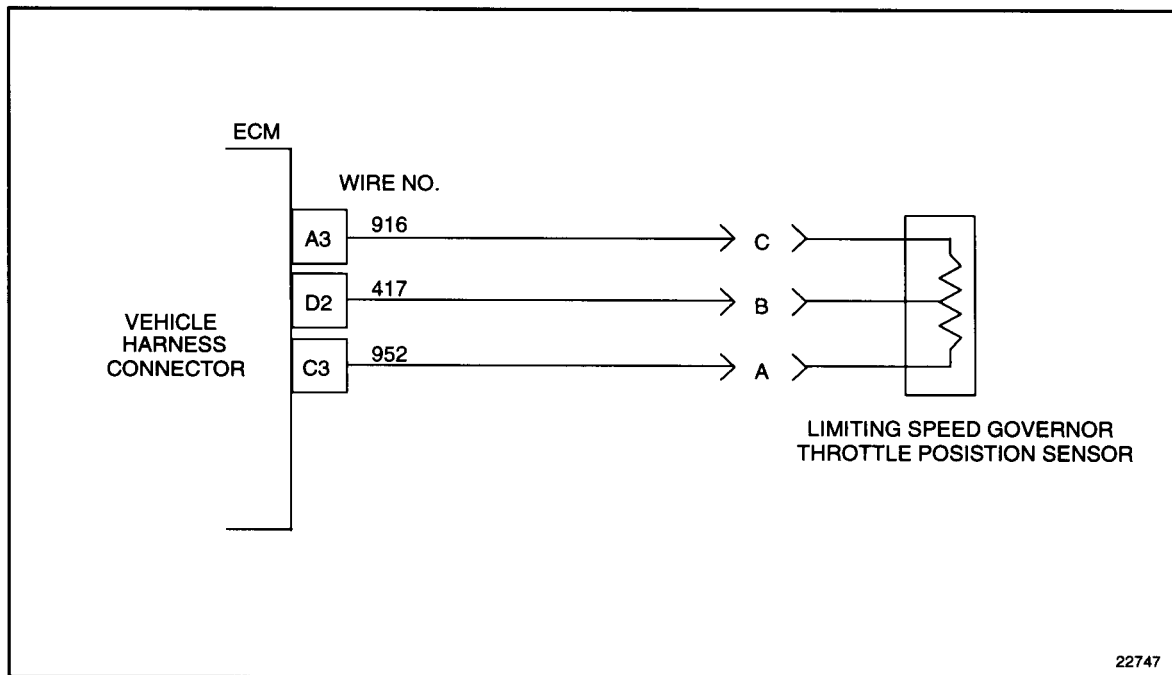

Figure 21-3 Throttle Position Sensor
1. Check terminals at the TPS connector (both sensor and harness side) for bent, corroded and unseated pins or sockets. See Figure 21-3.